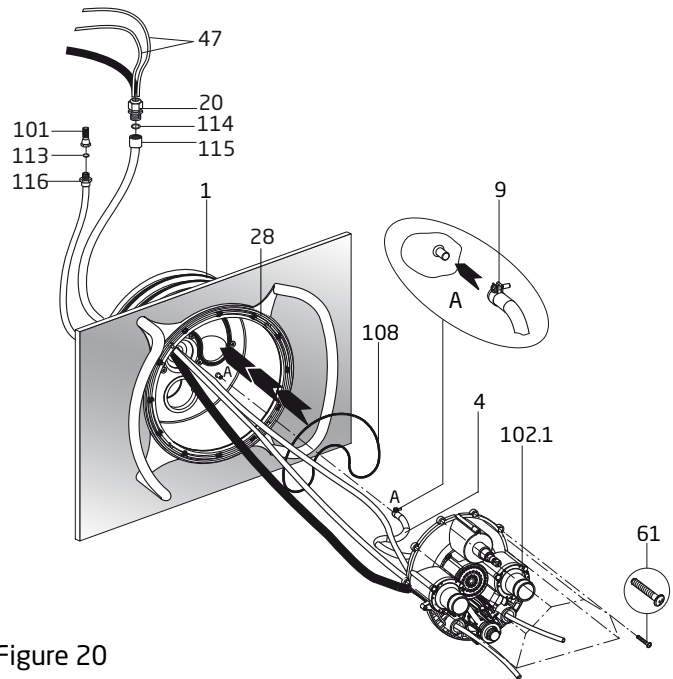
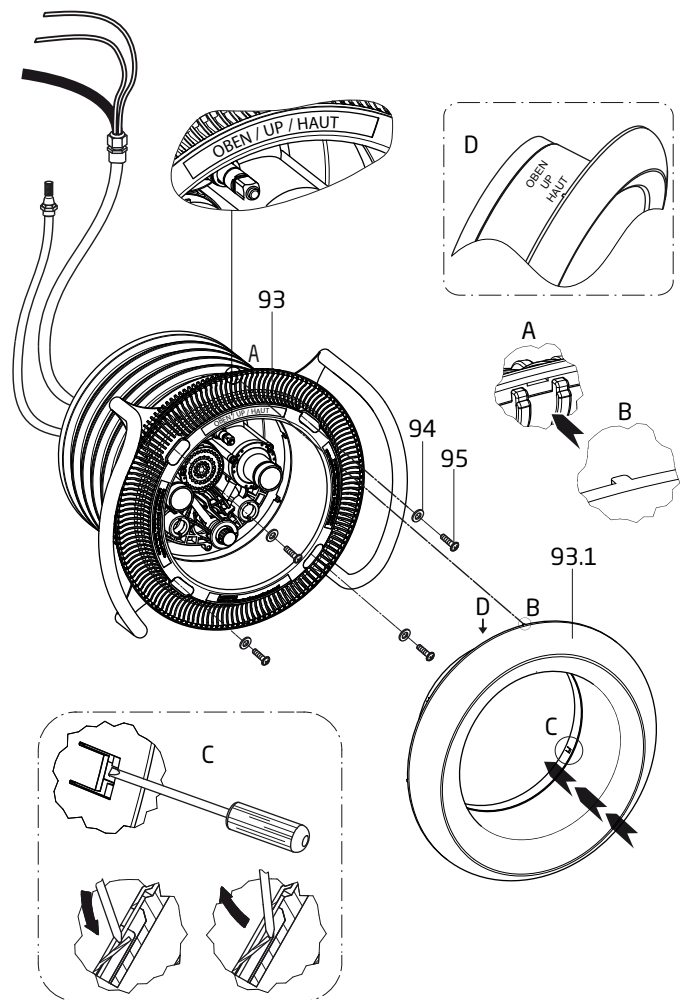

Figure 20
Figure 21
1. Insert the o-ring (part# 62) in the jet housing as shown in Figure 20.
2. Start the ten (10) nozzle housing tapping screws (part# 61) into the pre-assembled nozzle housing (part# 102.1). Place the nozzle housing at the main jet housing.
3. Feed both lengths of air tubing (part# 47) through the protective conduit as shown in Figure 20. Allow enough air tubing to reach the control box and air buttons. Excess can be trimmed upon installation. Mark each end with a marker. (P = Pump & L = Light.)
6. Align the complete nozzle housing to the main jet housing and fasten the ten (10) pre-assembled tapping screws. All screws should be **HAND TIGHT**. **DO NOT** use drills or pneumatic tools. **DO NOT** over tighten!
7. Place the anti-entrapment suction cover (part# 93) against the clamping ring (part# 28) and fasten with four (4) M8 washers (part# 94) and four (4) M8 x 20 suction cover screws (part# 95). All screws should be **HAND TIGHT**. **DO NOT** use drills or pneumatic tools. **DO NOT** over tighten! Make sure the UP label is in the correct position (See Figure 21).
8. Align the stainless steel cover (part# 93.1) with its mounting tabs to the existing notches of the anti-entrapment suction cover (part# 93). To fasten the cover use a screwdriver to bend the two (2) offset tabs outwards towards the suction housing notches. (See Figure 21)